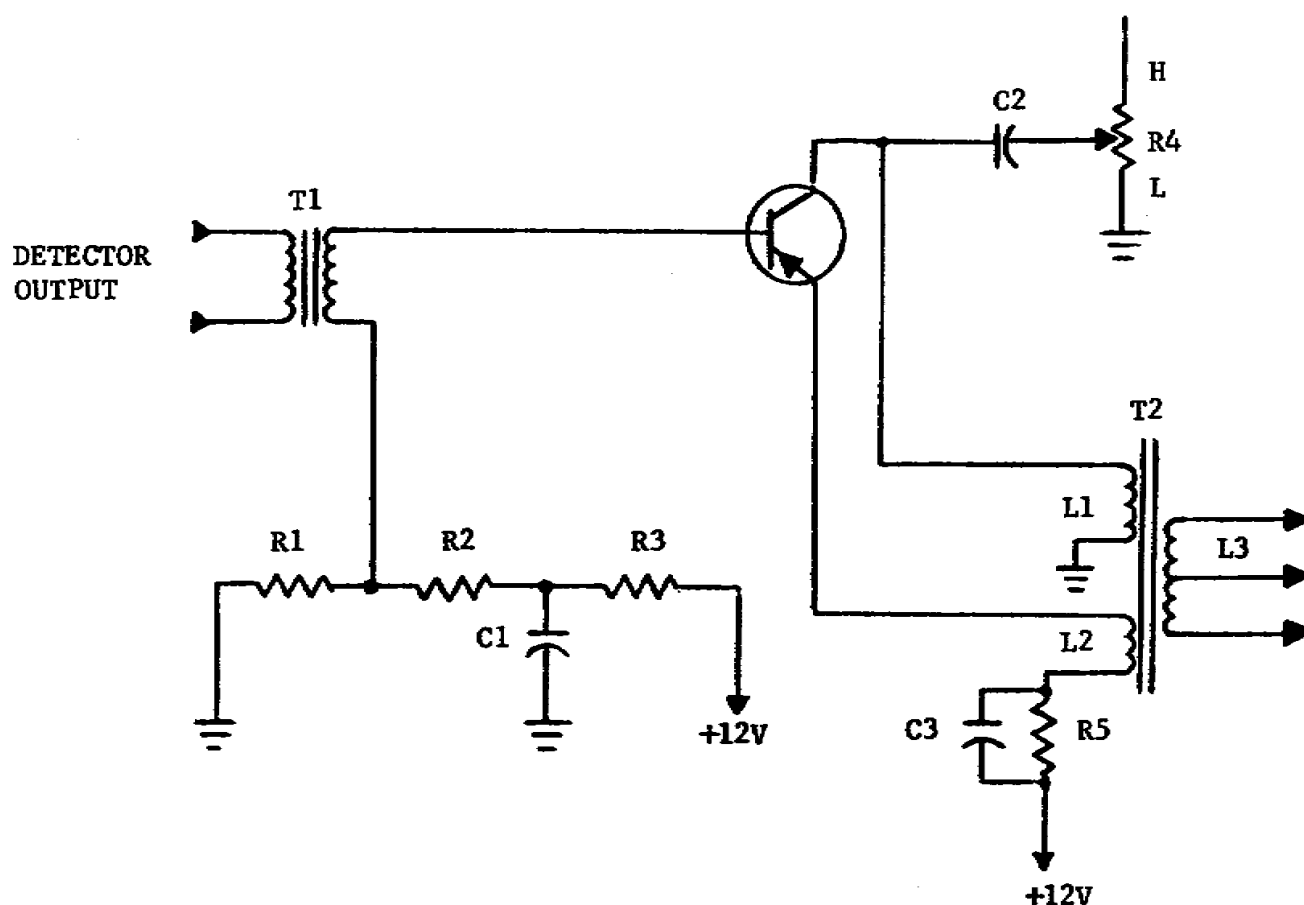

Figure 4-1. Transistor preamplifier.
a. Preamplifiers. In transistor receivers, audio preamplifier stages are used whenever the detector output is insufficient to drive the audio output stage. Figure 4-1 illustrates such a preamplifier stage, using a medium-power PNP transistor in a class A amplifier circuit.
- (1) Biasing. The emitter-base forward bias is obtained from a +12-volt source connected to the R1-R2-R3 voltage-divider network.
- (2) Signal path. The detector output is transferred into the secondary of input transformer T1 which carries both the input signal and the bias voltage to the base. The C1 is a bypass capacitor to prevent
13. In the transistor AF preamplifier shown in figure 4-1 of the attached memorandum, degenerative voltage is taken from coil L2 in the output rather than from resistor R3 in the input because